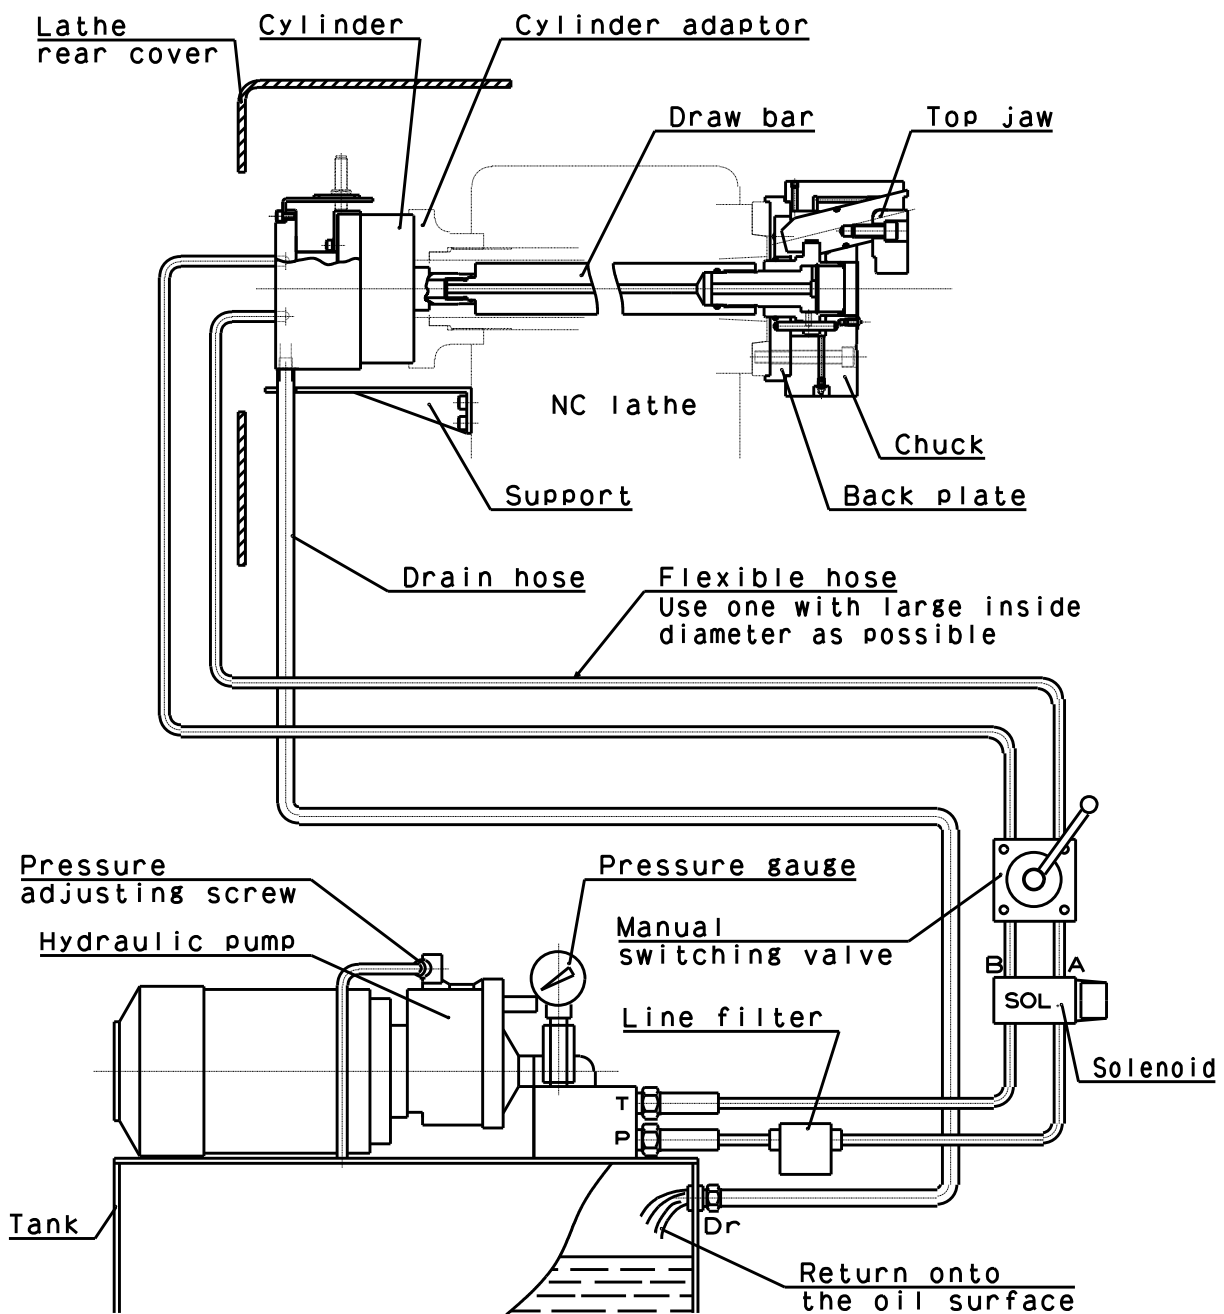

Fig. 10
- **The end of the hose is physically above the oil level. (Refer to Fig.10)**
- Arrange the drain hose to come back to the above of oil tank surface of the hydraulic unit.(Fig.10) If the drain hose is connected to T-port such as valve block, etc., the oil seal of cylinder will damage because back pressure is applied to the hose.